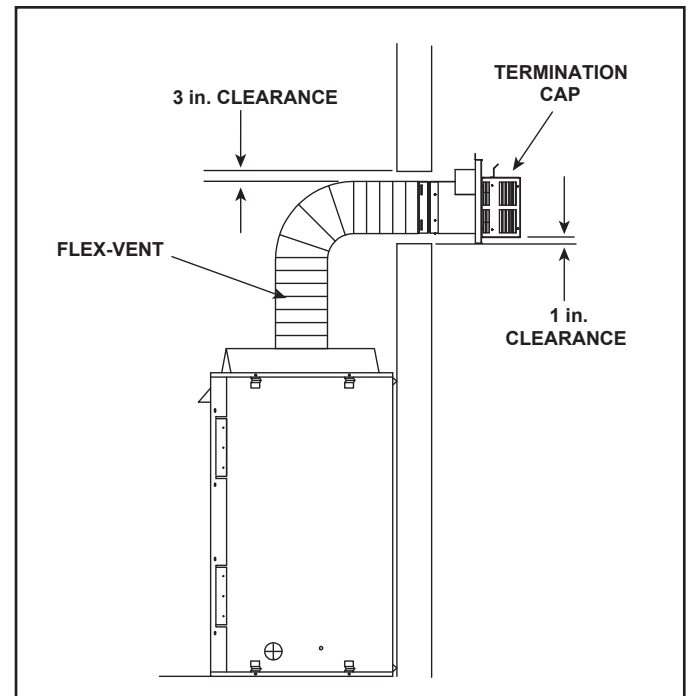

Figure 4.9 Flex Vent Pipe - Generic Fireplace Shown
A support is required at each change in venting direction, and in any location where it is necessary to maintain the necessary clearance to combustibles. A simple “up and out” installation (Figure 4.9) requires only enough support to maintain the necessary clearance to combustibles. However, the vent attachment point and the firestop location are considered to be supports.
**Note:** There **MUST** be a 25% reduction in total H when using flex vent except when using the simple up and out installation. See Figure 4.9.
**Note:** There MUST be a 25% reduction in total H when using flex vent except when using the simple up and out installation. See Figure 4.9.